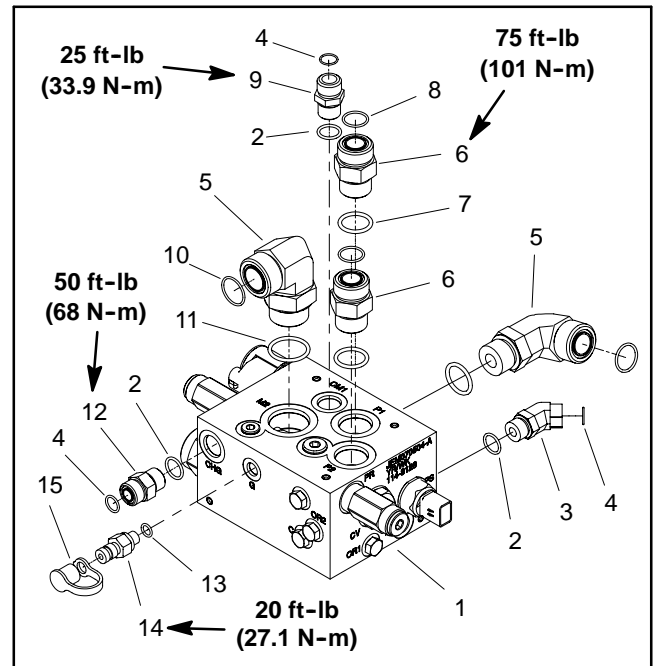

Figure 65
6. If hydraulic fittings are to be removed from control manifold, mark fitting orientation to allow correct assembly (Figure 65 or 66). Remove fittings from manifold and discard O-rings.
1. If fittings were removed from control manifold, lubricate and place new O-rings onto fittings. Install fittings into manifold ports using marks made during the removal process to properly orientate fittings. Tighten fittings (see Hydraulic Fitting Installation in the General Information section of this chapter). Refer to Figure 65 or 66 for fitting installation torque.